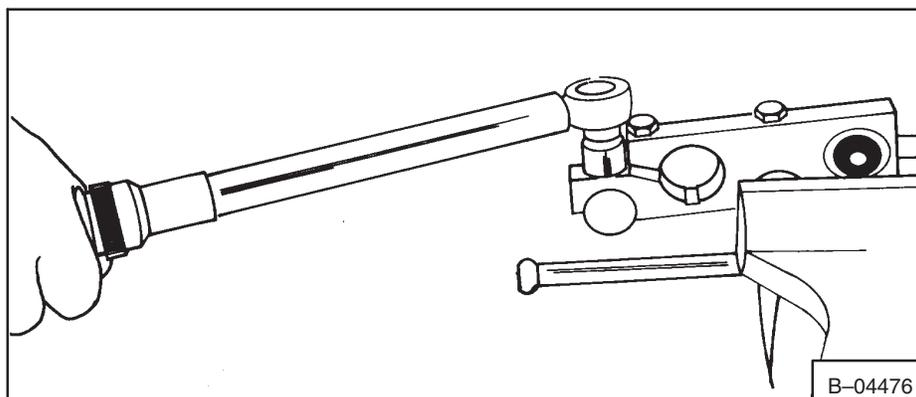

Fig. 3-20 Tightening Pintle Lever Lobes
4. Install the new lobes on the pintle lever and tighten 25-28 ft.-lbs (34-38 Nm) torque (Fig. 3-20).